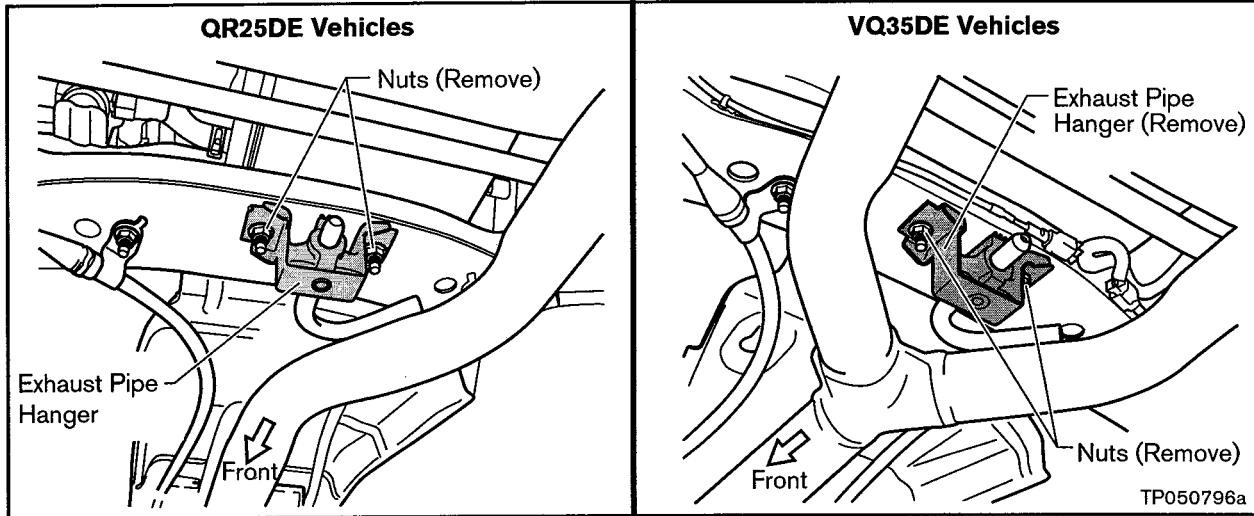

Figure A7
- d. Remove two nuts and take off the exhaust pipe hanger from the rear suspension member (see Figure A7).